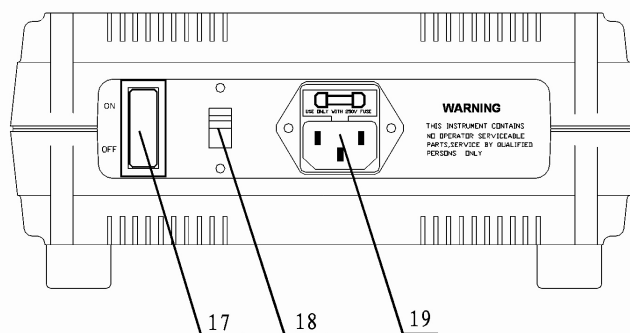

Fig.2
- (11) “RUN” : press this button down when the others keys are set, the equipment begins to work and displays the frequency and amplitude
- (12) “RESET” button: press this button down when something wrong can return to beginning.
- (13) “Hz” indicator.
- (14) “kHz” indicator.
- (15) “mVp-p” indicator.
- (16) “Vp-p” indicator.
b. back panel description: (see fig. 2)
- (17)Ship-shape power switch
- (18)220V/110V transform switch
- (19)220V/110V power plug and fuse box